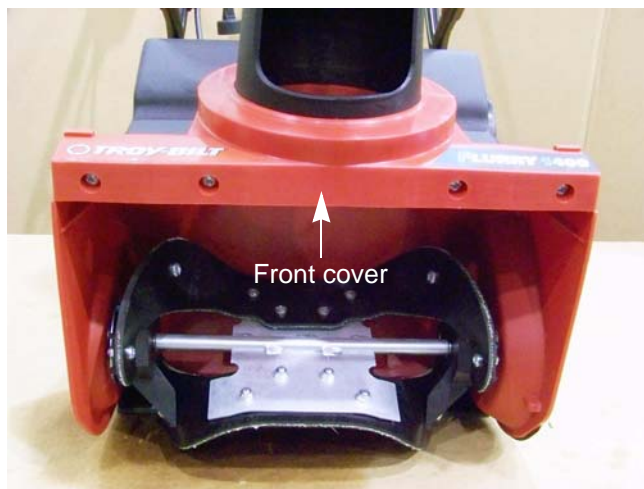

Figure 4.3
2. Remove the four screws that hold the front cover to the auger housing using a #3 phillips screw driver. See Figure 4.3.